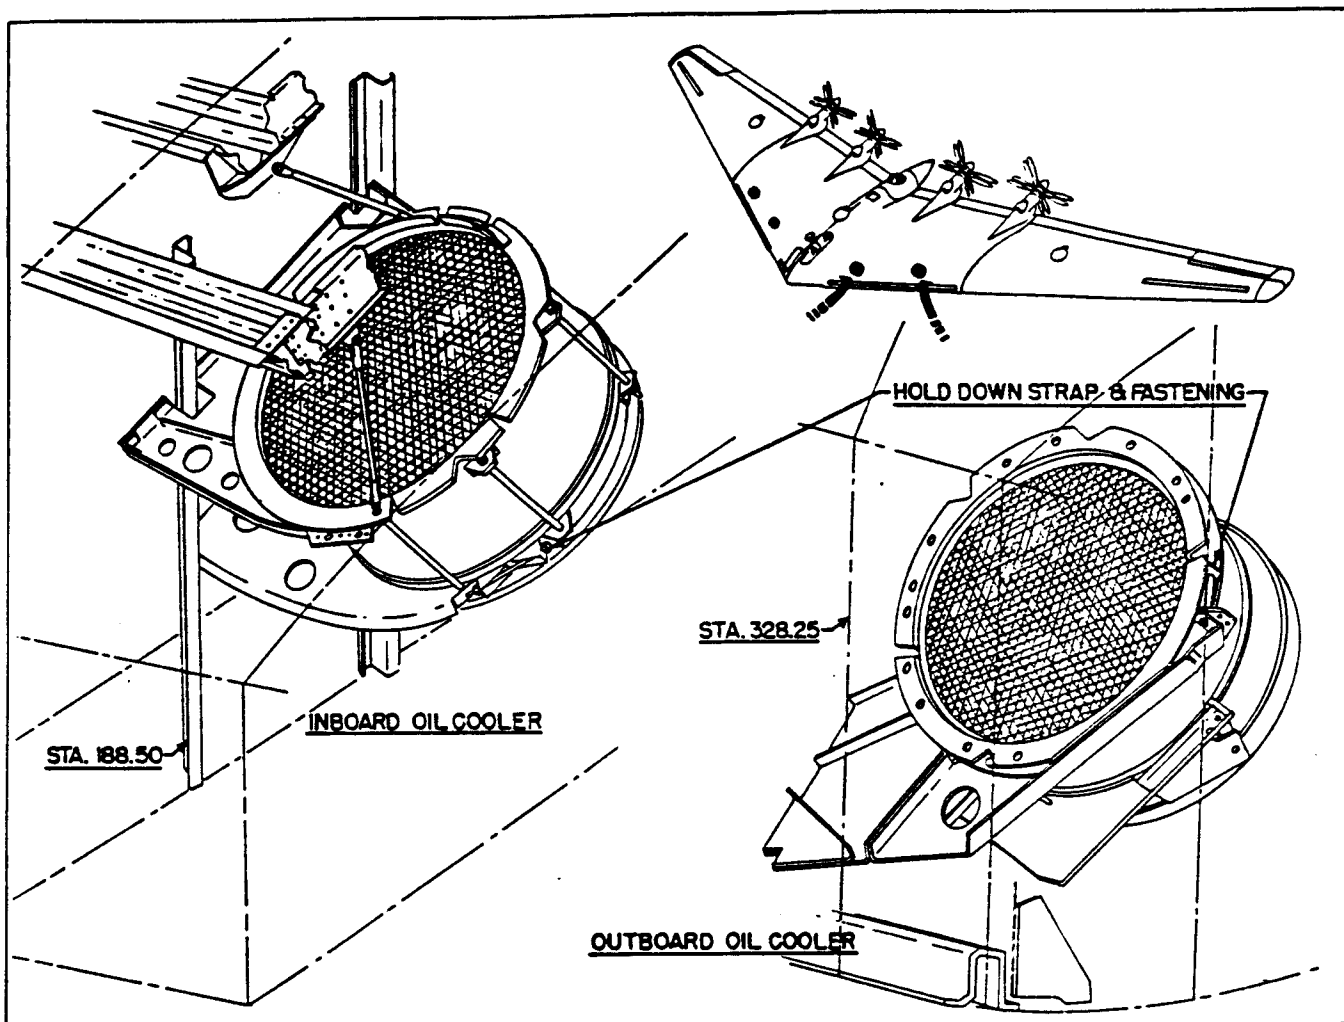

Figure 6. Engine Oil Cooler
e. ENGINE OIL COOLERS. (See figure 6.)
(1) DESCRIPTION.- Each engine oil system is provided with an (Airesearch No. 16345) oil cooler which is installed in the leading edge of the wing. The coolers are of the honeycomb-core type, incorporating the use of spring-loaded oil-temperature control valves. The control valves are designed to by-pass oil directly to the oil tank in the event the oil has become congealed or that flow through the oil cooler has become obstructed. No adjustment is provided for the control valve. Air-flow through the oil cooler is thermostatically controlled.
(2) REMOVAL.